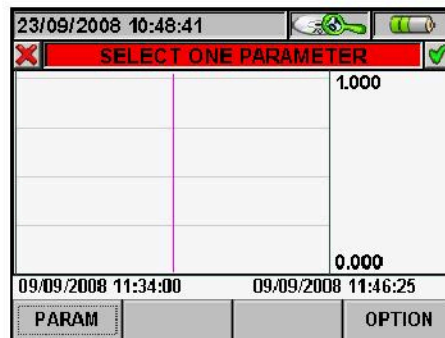

Fig. 139: Selecting a parameter
- Press the **ESC** key (or the smart icon  on the display) to exit the function and go back to the "Selecting a parameter" page (Fig. 139)
- Press the **ESC** key (or the smart icon  on the display) to exit the function and go back to the “Selecting a parameter” page (Fig. 139)